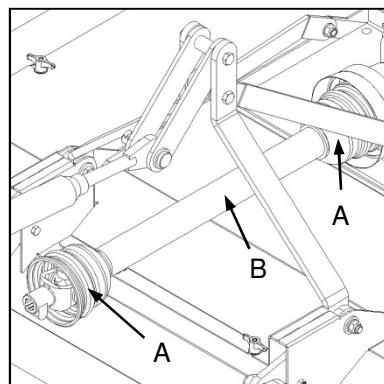

Fig. 10 (F210 TurfPro)
- ✓ Apply grease to the universal joints (Fig. 10-A) and telescopic tubes (Fig. 10-B) of the PTO drive shaft.
- ✓ Ghries die kruiskoppelings (Fig. 10-A) en teleskopiese buise (Fig. 10-B) van die kragaftakkeras.